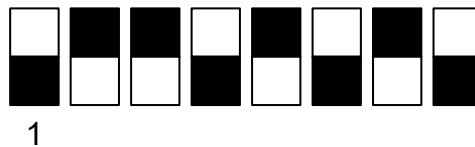

Figure 3. DIP Switch Settings
- Ensure that the configuration DIP switch settings are in line with the powered device (PD) to be used (refer to "6.1. Initialization and Operating Mode Configuration" on page 7). Alternatively, for the purpose of this quick check, use the settings shown in Figure 3.